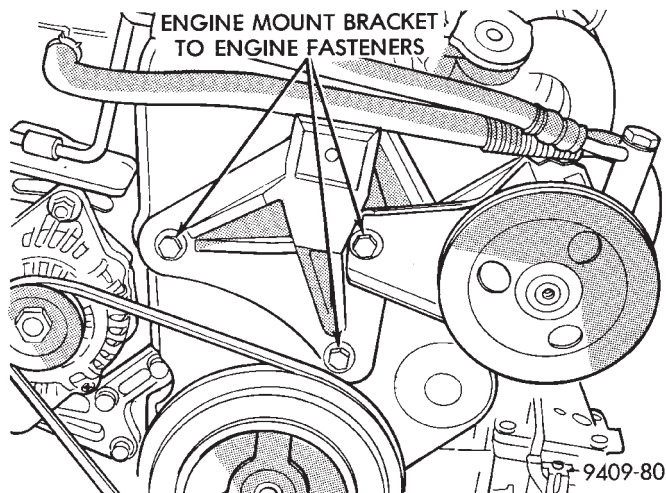

Fig. 44 Right Engine Mount Bracket
(4) Lower vehicle and place a jack under engine.
(5) Remove right engine mount. Refer to procedure outlined in this section.
(6) Remove right engine mount bracket (Fig. 44).